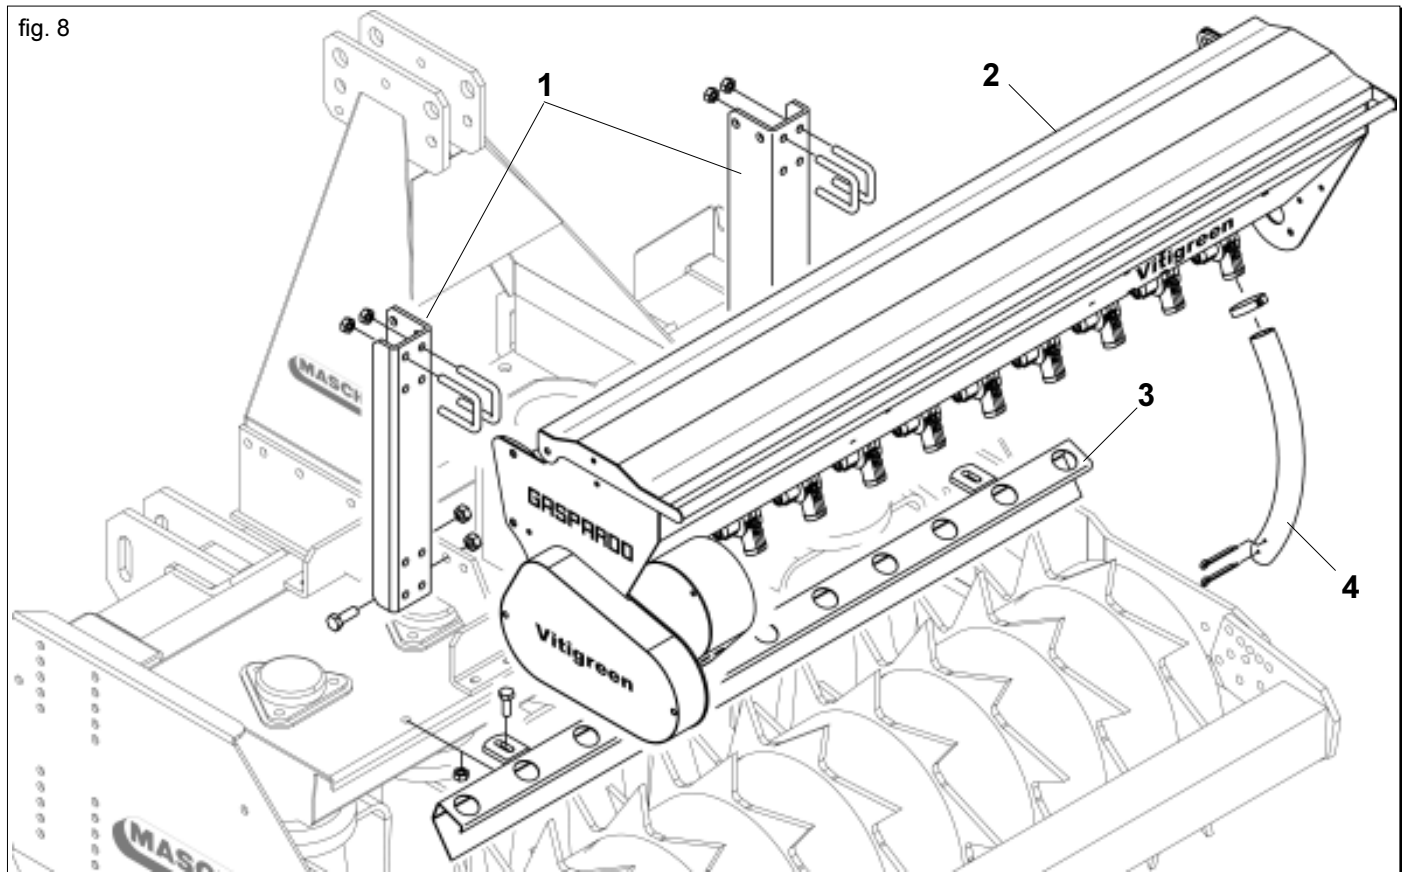

fig. 8
- 1) Fix the hopper supports (1) to the MASCHIO DLV implement as shown in Figure 8.
- 3) Fix the "scattering" bar to the implement (3 Fig. 8).
- 4) Connect the hopper to the "scattering" bar (3 Fig. 8) with the seed delivery tubes (4 Fig. 8).